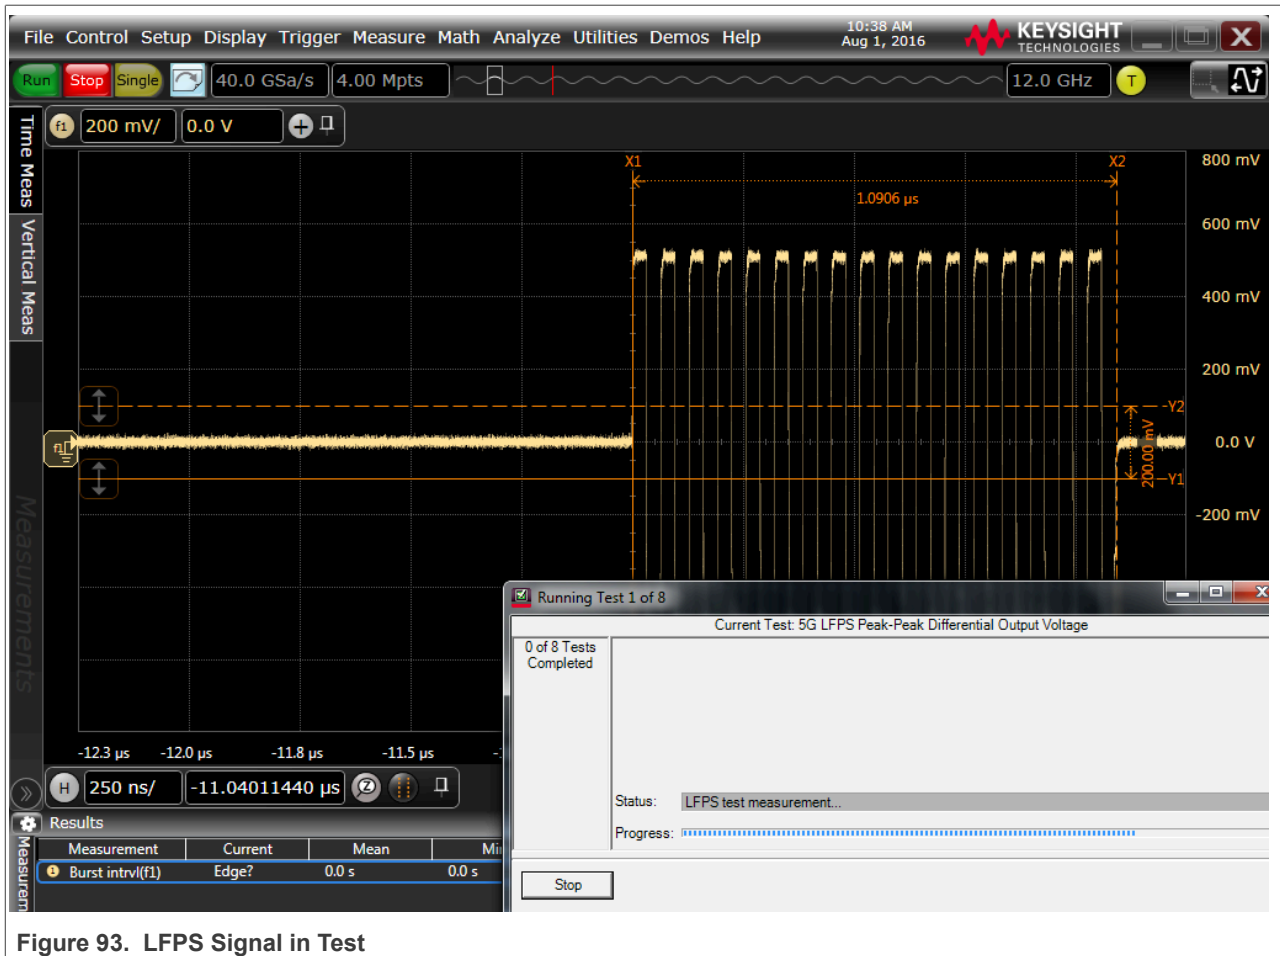
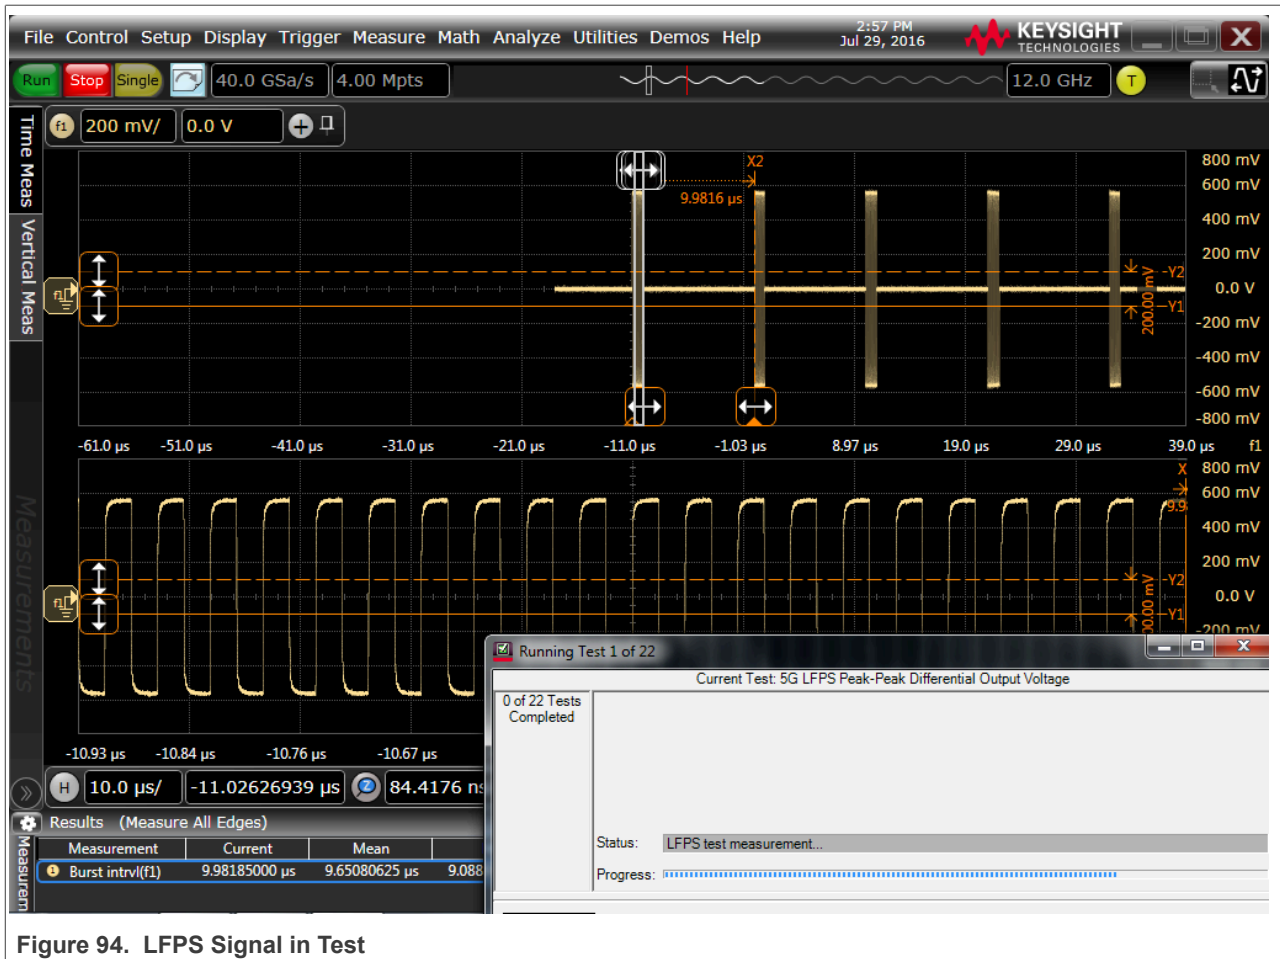

Figure 93. LFPS Signal in Test
Figure 94. LFPS Signal in Test
10. The software automatically completes the test in Figure 93 and Figure 94.